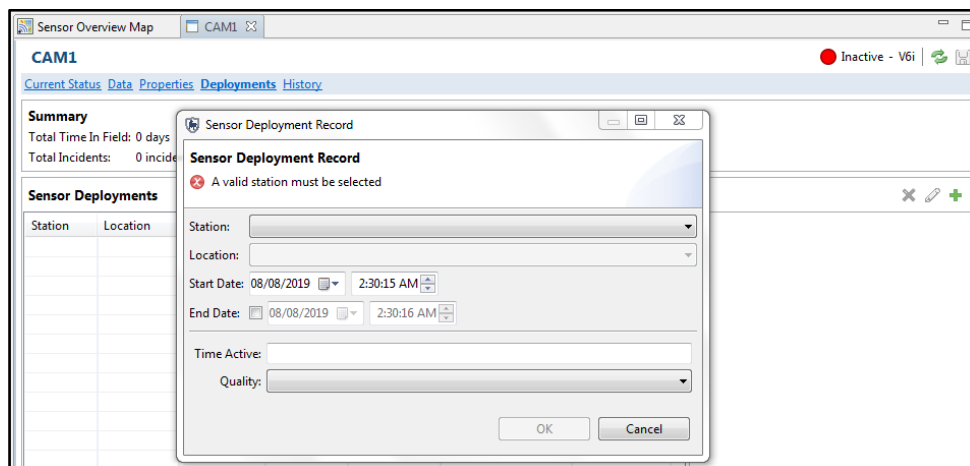

Figure 3.15: Deployment creation.
- Open the sensor information tab of the sensor you are creating a deployment for. Navigate to the **Deployments** submenu and press **+ create a new sensor deployment** on the top right to open the **Sensor Deployment Record** window (Figure 3.15). You will be prompted to enter a station, location, start date, and end date. If the sensor is currently deployed, you can leave end date unchecked. Once the values have been entered press **OK** to finalize the deployment. The newly created deployment will appear in the **Sensor Deployments** table with summary information, including the automatically produced **Total Time** attribute.